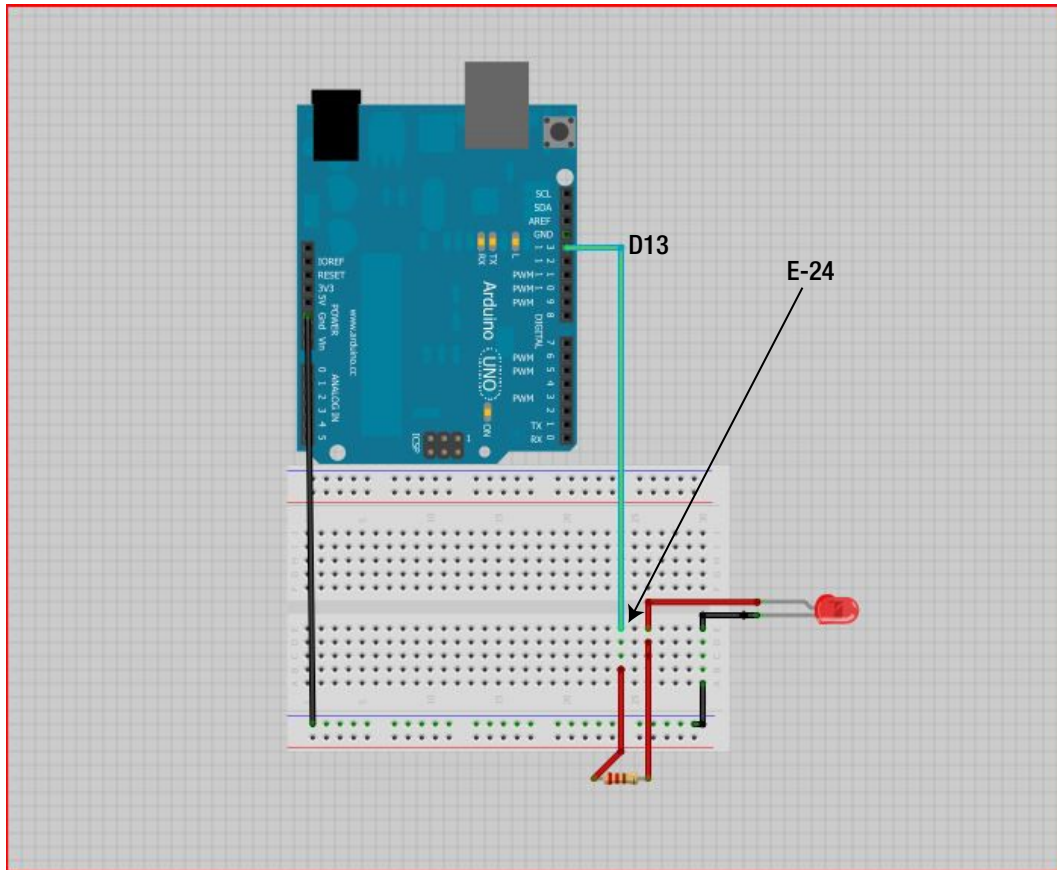

Figure 11-5. Attach digital pin 13 to the LED
4. Attach digital pin 13 of the Arduino to the other side of the resistor (E-24 of the solderless bread board), as shown in Figure 11-5.